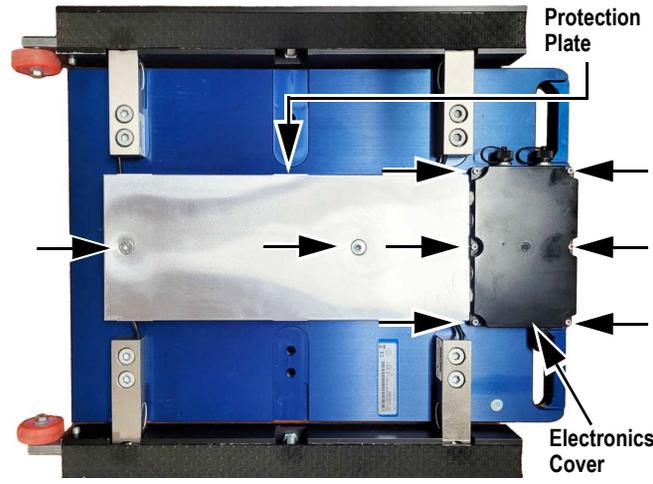

Figure 2. Protection Plate and Cover Mounting Bolts
3. Remove two protection plate bolts, then remove plate (Figure 2).
4. Remove six electronics cover mounting bolts, then open electronics cover (Figure 2).